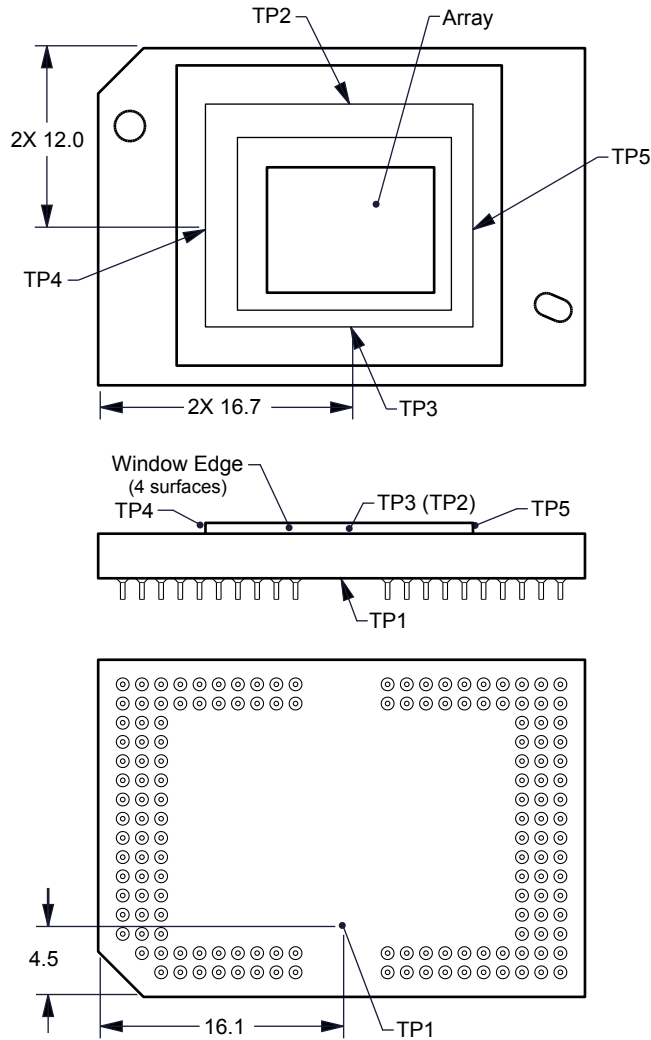

Figure 13. Thermal Test Point Location
Micromirror array temperature cannot be measured directly, therefore it must be computed analytically from measurement points on the outside of the package, the package thermal resistance, the electrical power, and the illumination heat load. The relationship between array temperature and the reference ceramic temperature (thermal test TP1 in Figure 13) is provided by the following equations:
- $T_{\text{CERAMIC}}$  = Measured ceramic temperature (°C), TP1 location in Figure 13